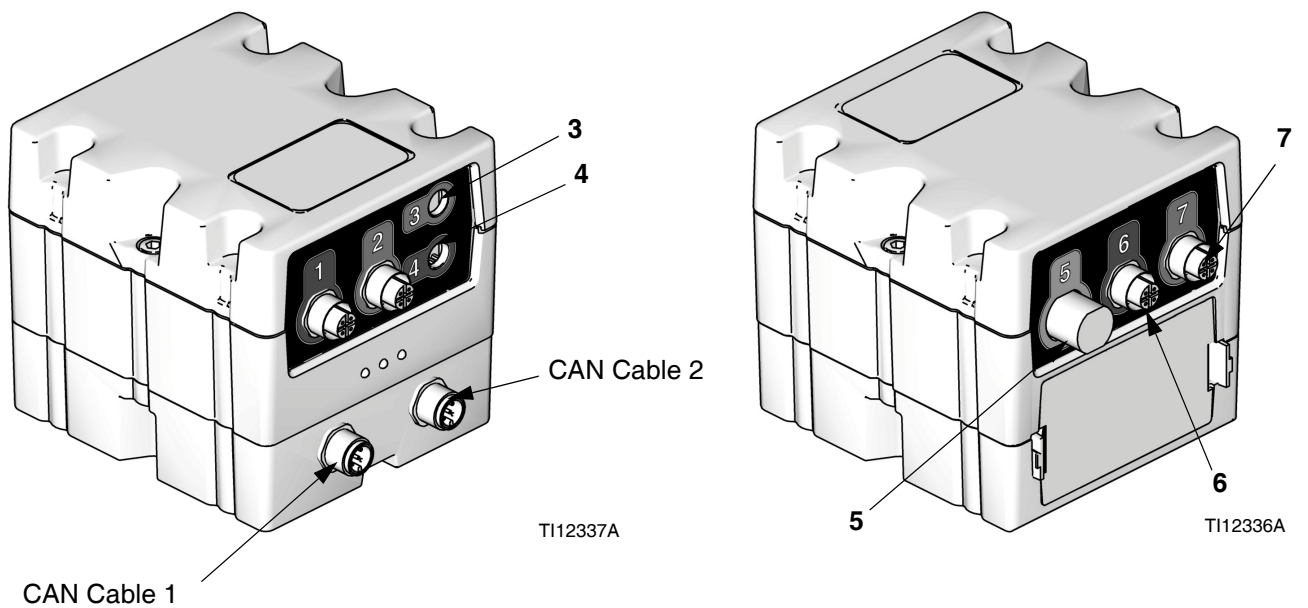

FIG. 7: FCM Sensor Connections
- Fluid control module (K). See FIG. 7, page 13.
3. Replace the existing cable between the empty sensor (EE) and FCM connector (see FIG. 7, page 13) with the empty/low sensor splitter cable.